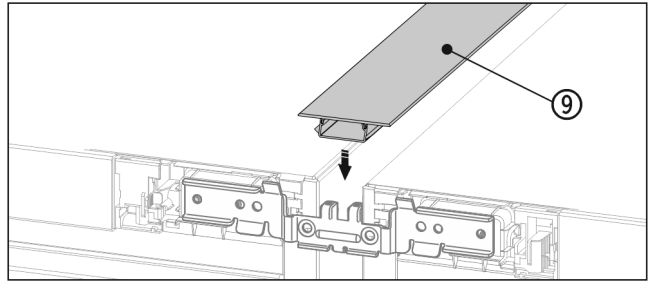

Fig. 21 *
- On the top press the short cover strip Fig. 21 (9) into the horizontal gap.*